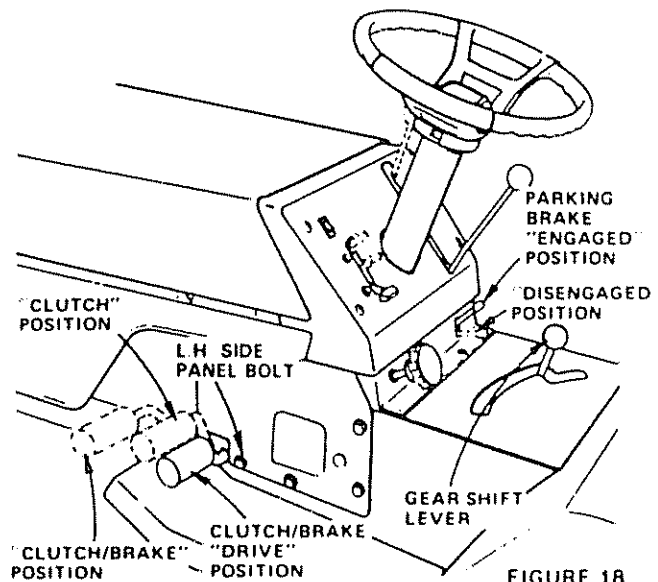

FIGURE 18
- Connect the other end of the cable to the L.H. side panel bolt (Fig. 18) **NOTE: KEEP AWAY FROM GAS TANK AND BATTERY**
- L.H. Side Panel Bolt (Fig. 18)